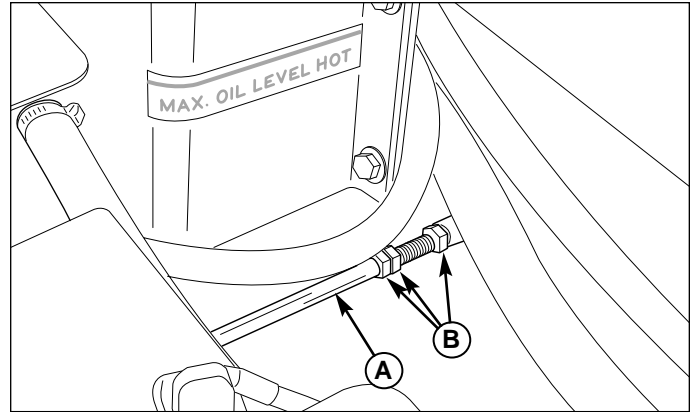

Figure 27. Neutral Adjustment
2. There are three (3) nuts on the linkage rod. The first two are to be used together to turn the rod and the third (towards the front of the machine) is used to lock the rod in place. Loosen the jam nut that locks against the clevis (B, Figure 27) and turn the linkage rod (A, Figure 27) to adjust. If the machine creeps forward, turn the rod CLOCKWISE (while standing at the rear of the machine, facing forward), if the machine creeps backward, turn the rod COUNTER-CLOCKWISE.
3. Lock the jam nut (B) against the clevis when neutral is achieved.